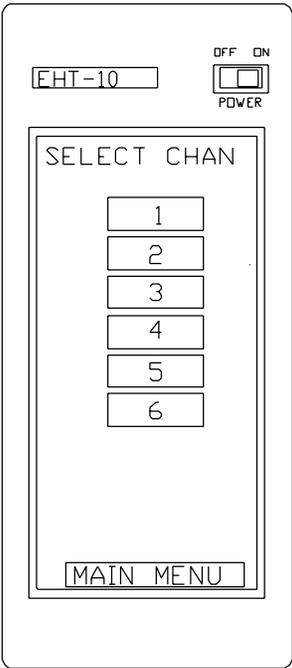

Figure 6 Select Channels Menu
- * Press **Channel** on the FST Main menu. The hand terminal displays the Select Channels menu, as shown in figure 6.